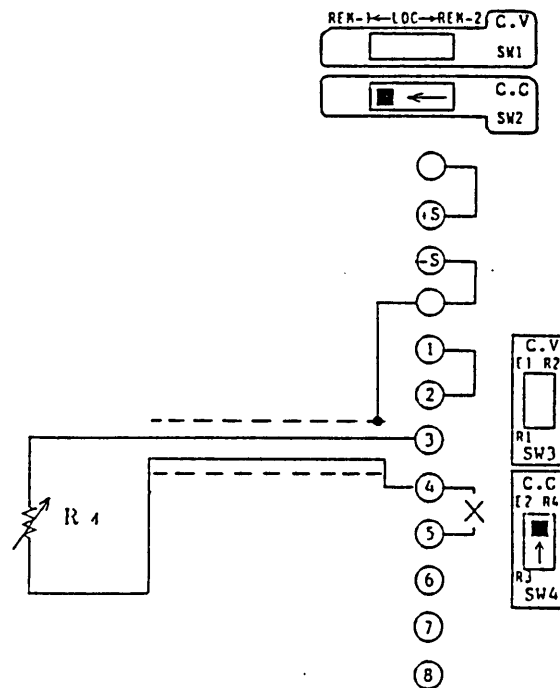

Figure 4-10
- (1) Turn off the POWER switch.
- (2) Throw the SW2 switch of the rear panel to REM-1.
- (3) Throw the SW4 switch of the rear panel to R4.
- (4) Disconnect the jumper from between terminals ④ and ⑤ of the rear terminal block.
- (5) Connect a control resistor R4 between terminals ③ and ④.
- (6) Regarding the switches for which no settings are specified in Figure 4-10, set them to the standard states as shown in Figure 2-23 (See Section 2.4.) or to appropriate states for respective modes (See Sections 4.1 through 4.11.).